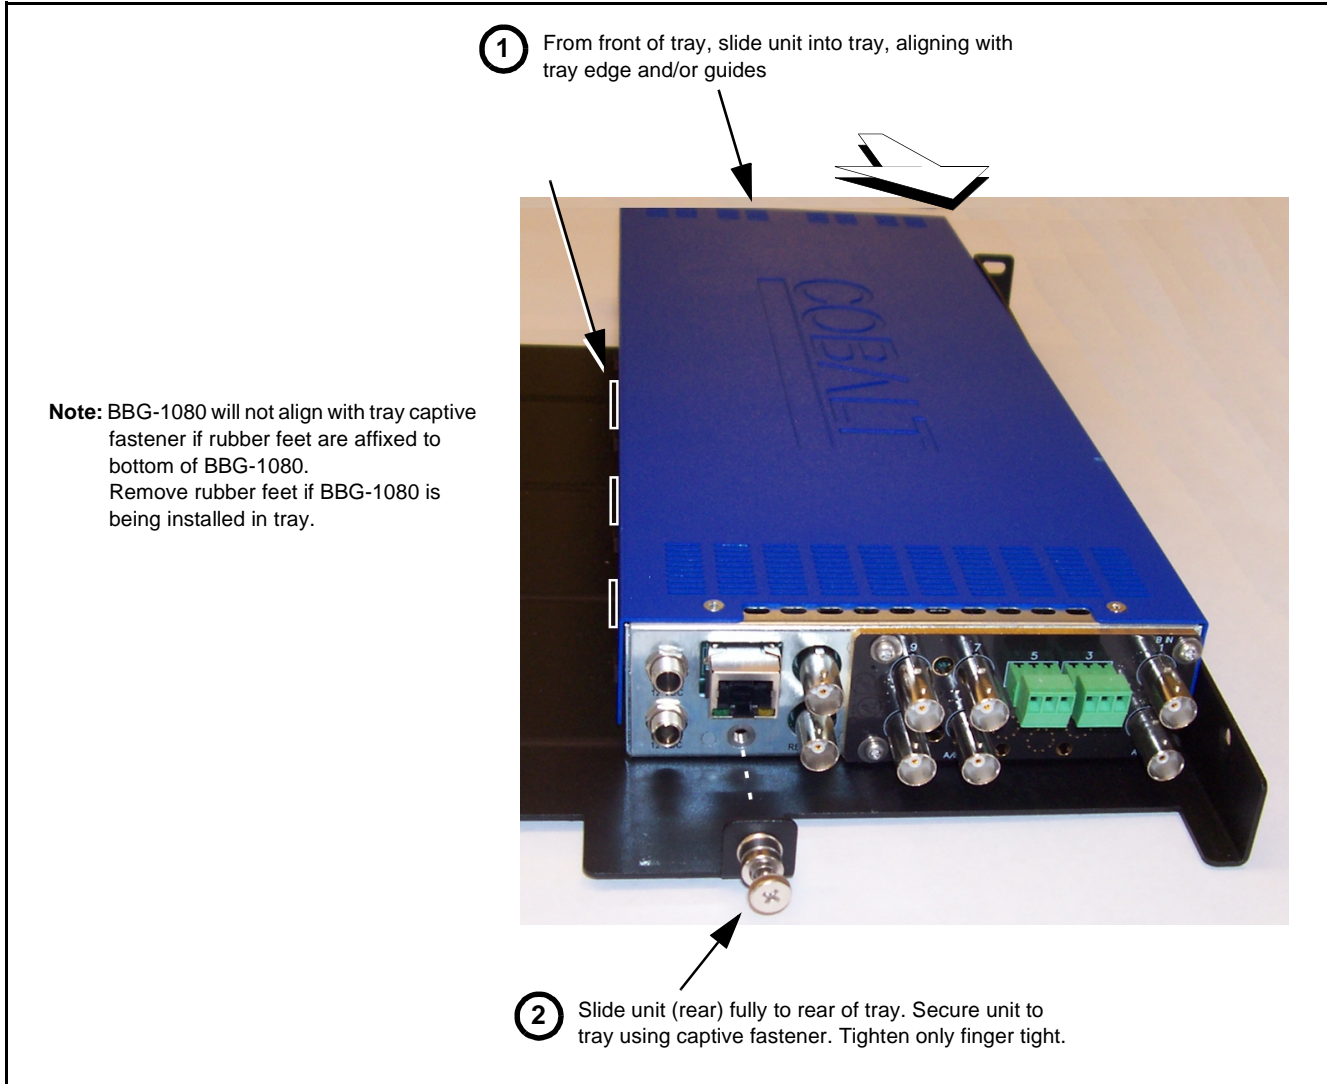

Figure 2-1 Mounting BBG-1080-CSC-3G Using Frame Mounting Tray
1. If installing BBG-1080-CSC-3G using optional frame Mounting Tray BBG-1000-TRAY, install BBG-1080-CSC-3G in tray as shown in Figure 2-1.